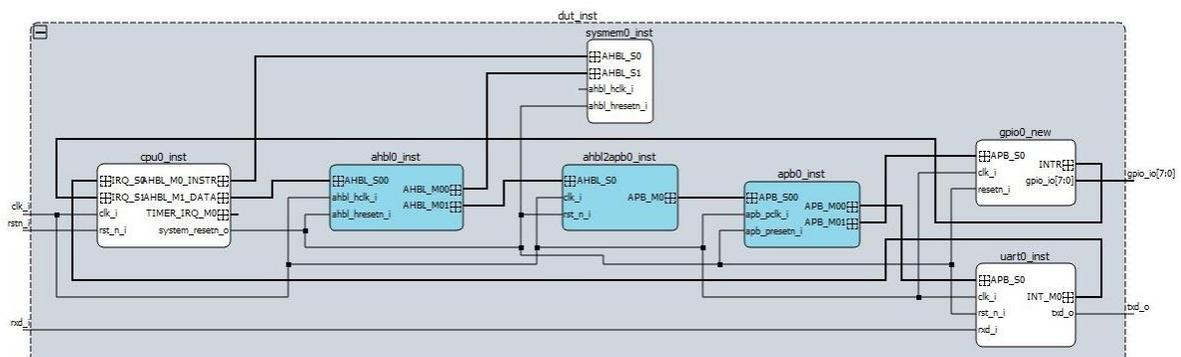

Figure 2.65. Whole SoC Design
- Click the plus sign  of this `dut_inst` DUT block. You can see the whole SoC Design (Figure 2.65). Click the negative sign  to close the expanded bus.